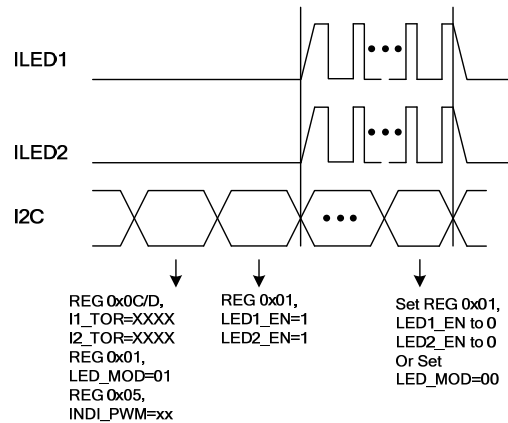

Figure 3: Indicator Mode
When LED_MOD is set to 01 and LED_EN1/2 is set to 1, the MP3336A enters indicator mode, which provides a low-current output (see Figure 3). In this mode, the driver current sources work in a 31.5kHz PWM dimming mode. The current amplitude can be set by I1_TOR and I2_TOR, while the indicator current step ramps up more quickly at a rate of 7.84mA/step, compared to assist mode's ramp-up rate of 1.25mA/step. The final amplitude in this mode can be calculated with Equation (1):